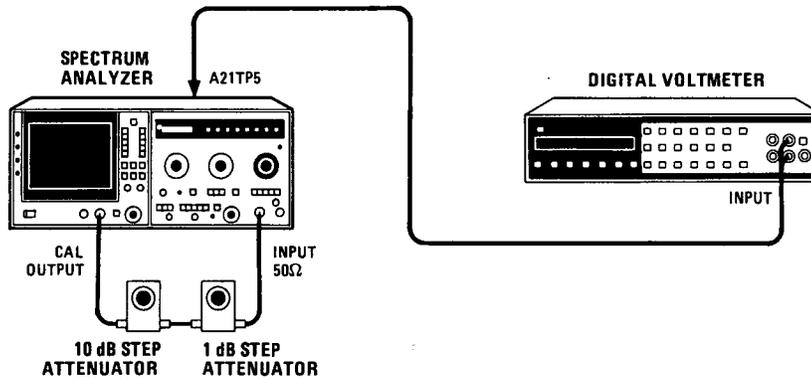

Figure 5-16. Log Amplifier Adjustment Test Setup
2. Reconnect power cord, set LINE switch ON, and connect equipment as shown in Figure 5-16. Set normal (green) settings, except as indicated, and other spectrum analyzer controls as follows: